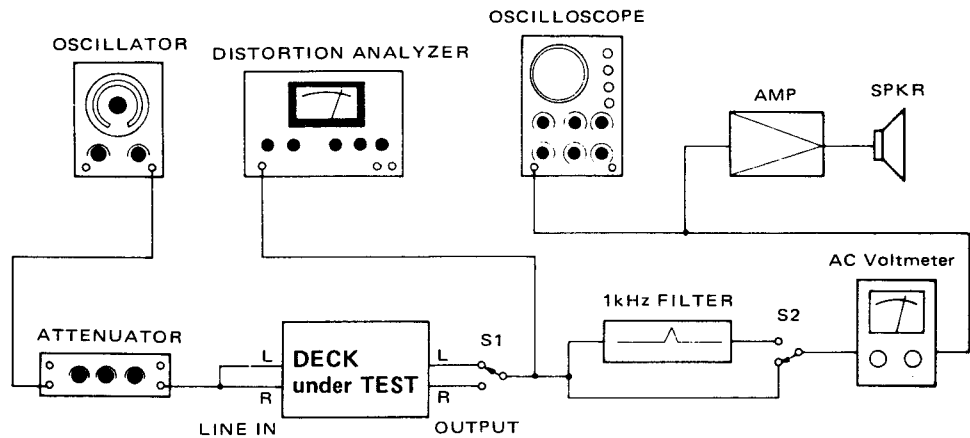

Fig. 5-1 Basic test setup
16. Erase efficiency	• Connection is same as in Fig. 5-1, but engage 1-kHz filter. • Record a 1-kHz signal in FWD (REV) direction. Rewind (wind) tape to midpoint of recorded portion. Record a "no signal" portion in FWD (REV) direction. Find the difference between the 1-kHz portion and the "no-signal" portion.
17. REC MUTE function	• Connection: Fig. 5-1, but engage 1-kHz filter. • Record a 1-kHz signal for several seconds in the FWD (REV) direction. Then push the REC MUTE button to provide four seconds of blank space on the tape (At this time, make sure the REC button indicator lamp flashes on and off). After the deck automatically goes into the record-pause mode, rewind (wind) and play the tape in FWD (REV) direction. Find the difference between the 1-kHz portion and the "no signal" portion.
18. Channel separation	• Connection: Fig. 5-1, but do not connect LINE IN (R), and engage 1-kHz filter. • Set the deck to FWD (REV) record mode. Find the difference between the 1-kHz recorded portion (L-ch) and the "no signal" portion (R-ch).
19. Adjacent track crosstalk	• Connection: Fig. 5-1, but do not connect LINE IN (L) and OUTPUT (L). • Record a 125-Hz signal on the R-ch in FWD (REV) direction and note the output level. Invert the tape and play the R-ch track in the FWD (REV) direction. Check the leakage level against the output reference of the previously recorded portion.